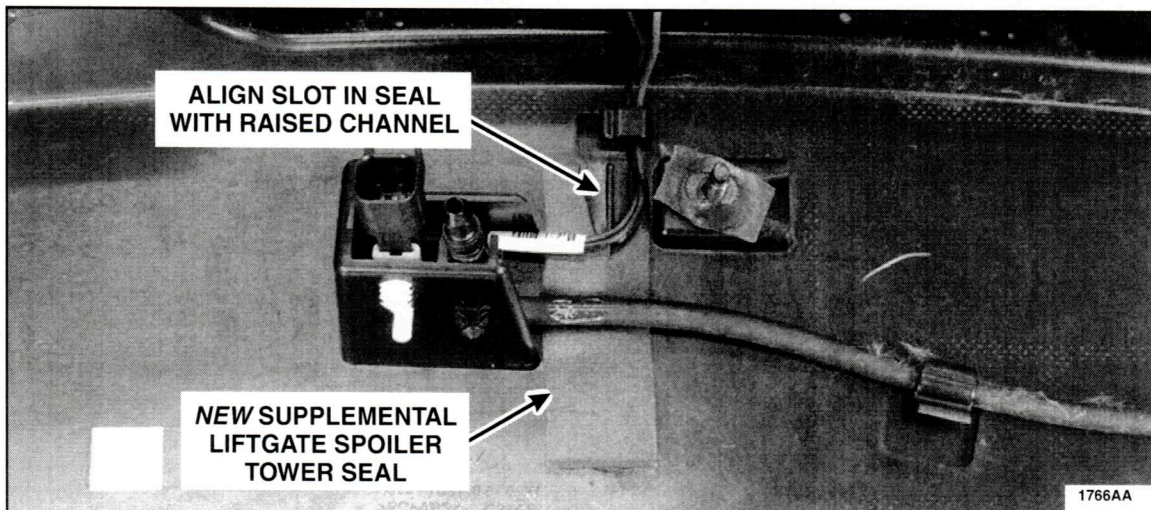

FIGURE 11
5. Install a *new* supplemental liftgate spoiler tower seal underneath the wiring and washer line. Make sure the slot in the seal is aligned with the raised channel on the spoiler. See Figure 11.